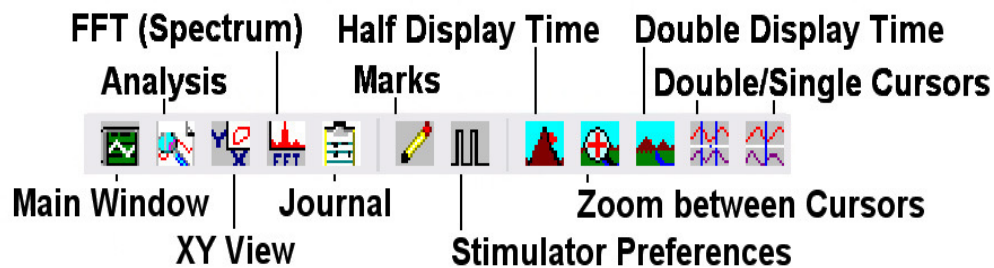

Figure HE-4-S19: The LabScribe2 toolbar.
20. Use the Display Time icons to adjust the Display Time of the Main window to show the complete calibration data (Figure HE-4-S19).
22. Click Advanced on the main toolbar. Then click Metabolic, and Calibrate FlowHead (Figure HE-4-S20).